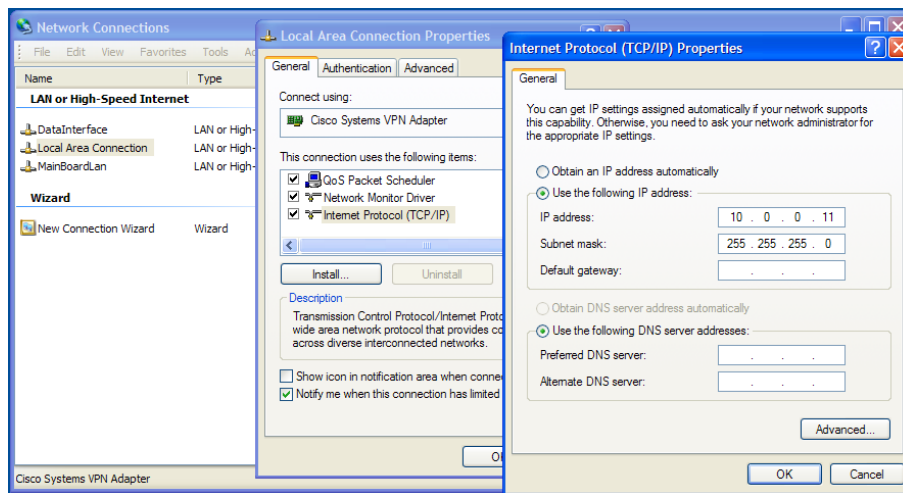

Figure 8.2 Setting static IP address 10.0.0.11 in Windows XP
1. Connect an Ethernet cable directly between the PC and the Ethernet control port of the TVG425. Configure the PC to be on the same sub net as the TVG425. See Figure 8.2.
The screen-shot in Figure 8.2 shows how to configure the network interface in Windows XP to communicate with the TVG425 with factory default settings. The IP address/netmask is set